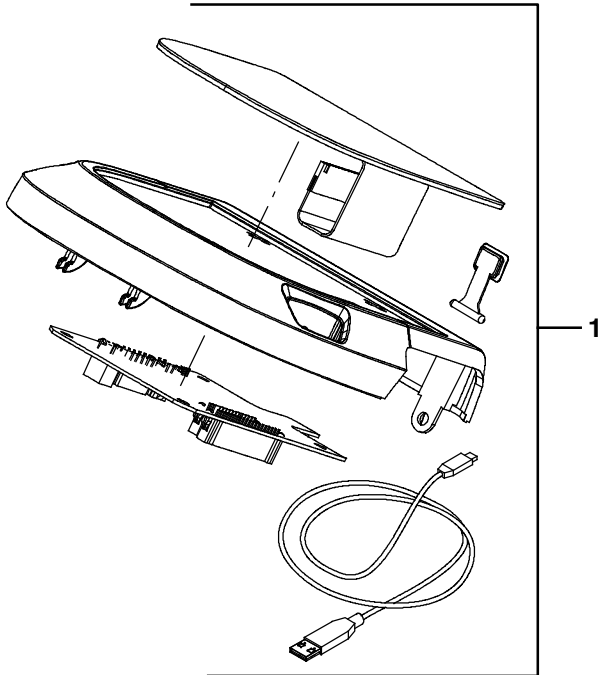

Fig. 24
4. Open the “Downloads” folder and locate the “LE\_Setup\_ xxxx” zip file. Open the zip file and double click on the “LE\_Setup\_ xxx” file to install the application software on your computer (Figure 24). Follow instructions on screen to install.